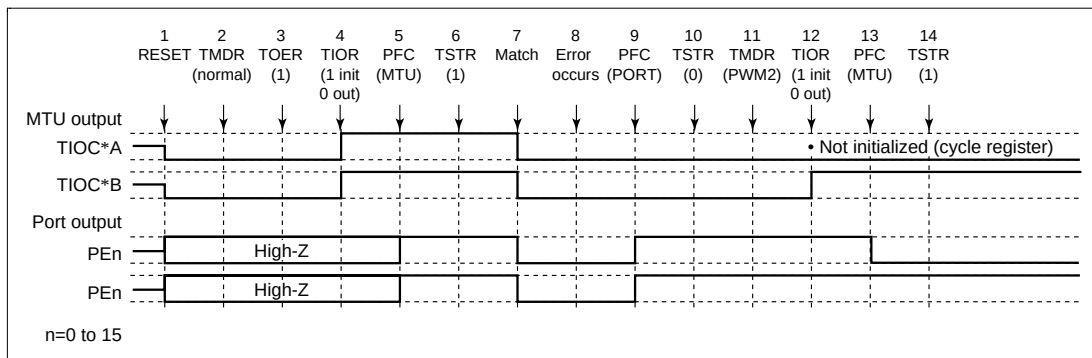

**Figure 12.98 Error Occurrence in Normal Mode, Recovery in PWM Mode 2**
**Restarted in PWM Mode 2:** Figure 12.98 shows an explanatory diagram of the case where an error occurs in normal mode and operation is restarted in PWM mode 2 after re-setting.